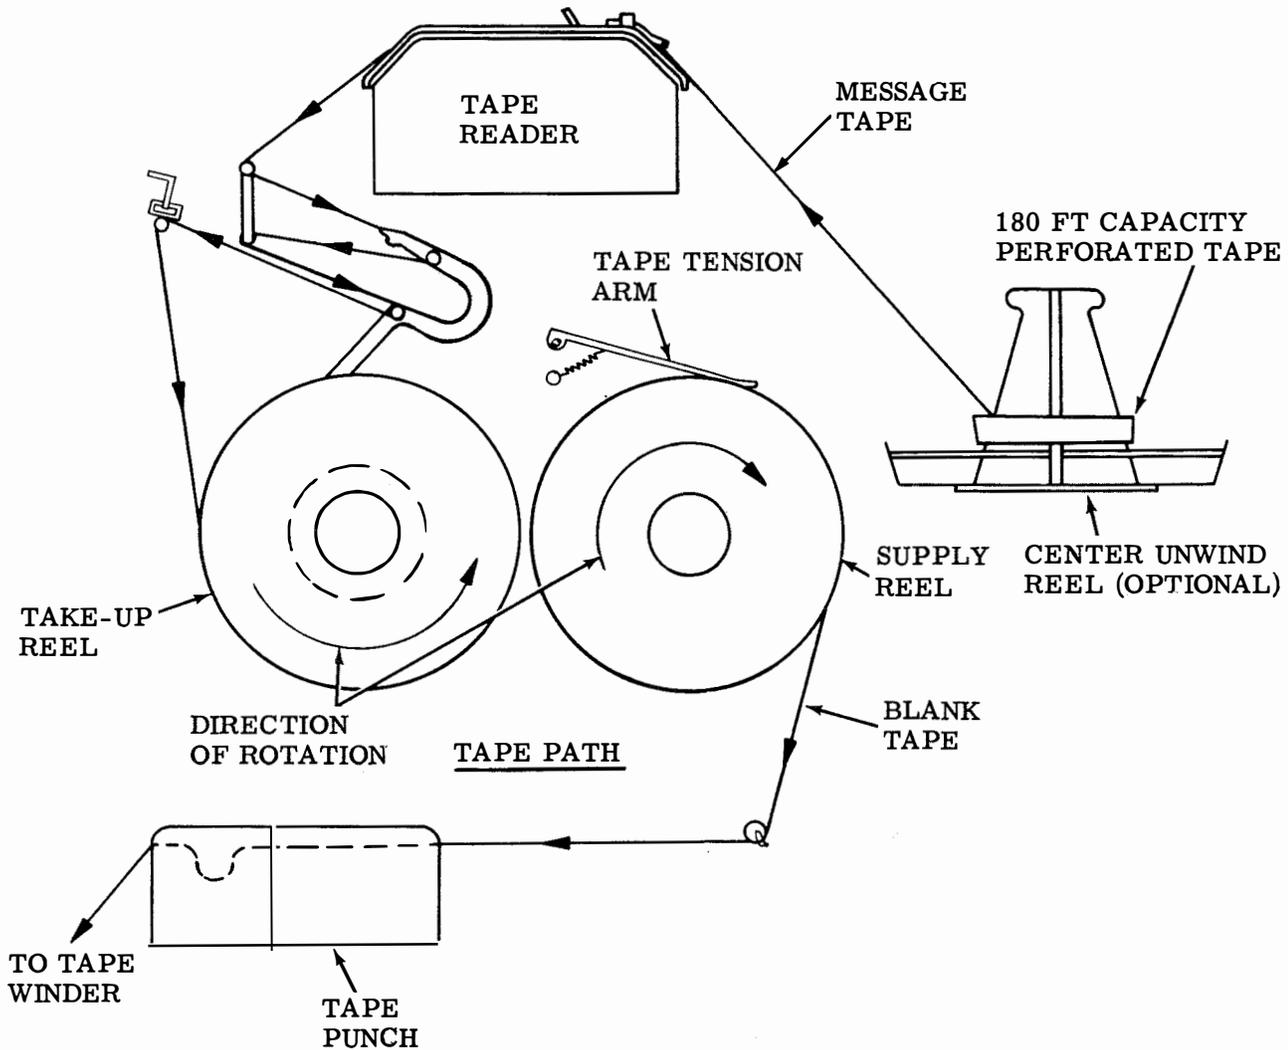

Figure 10 - Tape Routing, Tape-to-Tape Station Converters
- (a) Thread tape into the tape punch (see Figure 10). Follow the threading procedure outlined in Paragraph 5.02(a).
- (c) Thread tape onto the tape reader and the take-up reel (see Figure 10).
- (1) Place tape on center unwind reel.